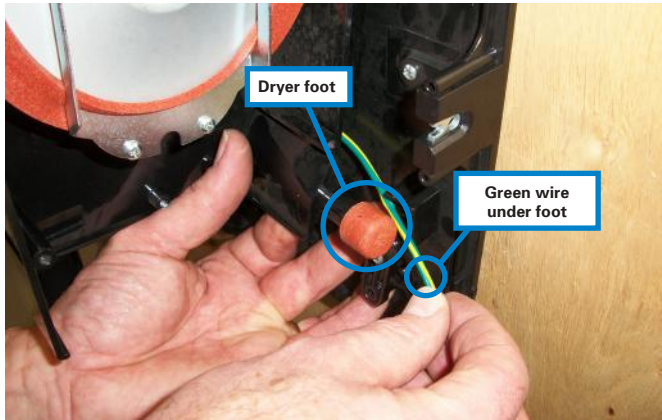

Figure 5
5. With the retainer removed, pull the corner of the dryer out away from the base plate enough to pull the green ground wire underneath the dryer foot toward the bottom of the dryer. (Figure 5)